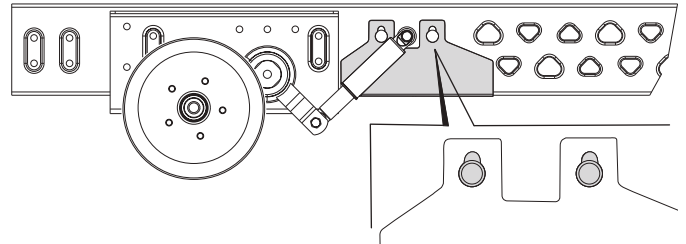

Fig. 15
- Suitable for caravans up to 2000 kg with Knaus Tabbert Dyonic chassis AB3 with a frame thickness of less than 2.8 mm (Fig. 15).